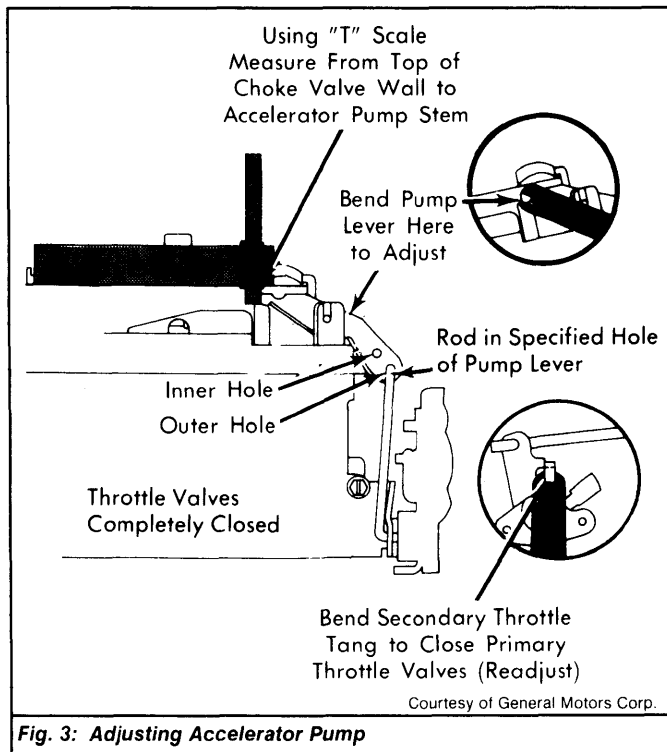

Fig. 3: Adjusting Accelerator Pump
- 1) Close throttle valves completely. Make sure fast idle cam follower is off fast idle cam steps. Bend secondary throttle closing tang to make sure primary throttle valves are fully closed. Readjust after accelerator pump adjustment. See Fig. 3.